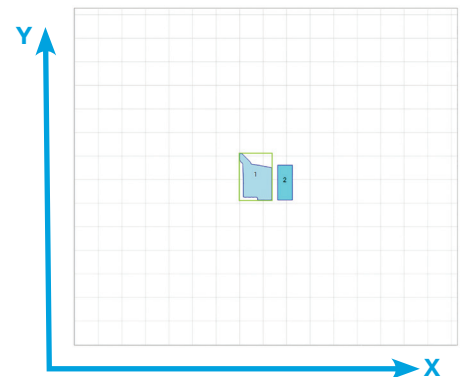

Figure 7: A single part on the Fortus 450mc should be placed in the center of the build platen.
- Single Parts - Place near the center of the platen (Figure 7).